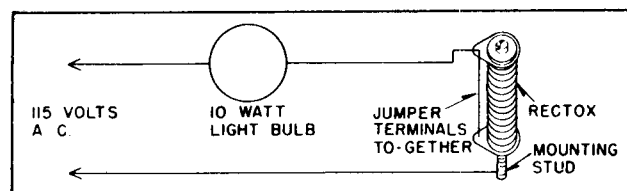

FIG. 15. Ground Test of Rectox.
A. Connect as shown in Fig. 15.